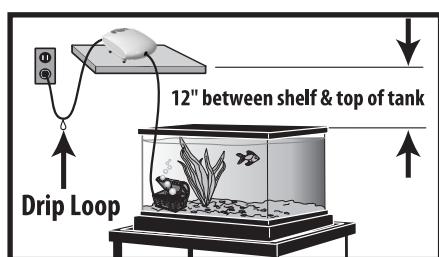
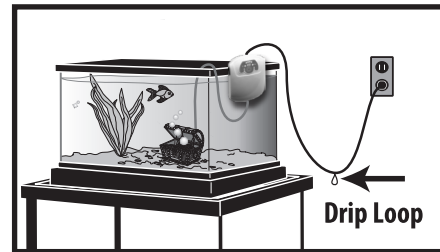

FIG. 2A
FIG. 2B
D.) To avoid the possibility of the air-pump plug or receptacle getting wet, position aquarium stand and tank to one side of a wall-mounted receptacle to prevent water from dripping onto the receptacle or plug. A "drip loop" (shown in FIG. 2A/FIG. 2B) should be arranged by the user for each cord connecting an aquarium appliance to a receptacle. A drip loop is the part of the cord below the level of the outlet that prevents water from traveling along the cord and coming in contact with the outlet. If the plug or outlet does get wet, DO NOT unplug the cord! Disconnect the fuse or circuit breaker that supplies power to the air-pump. Then unplug and examine the outlet for the presence of water.